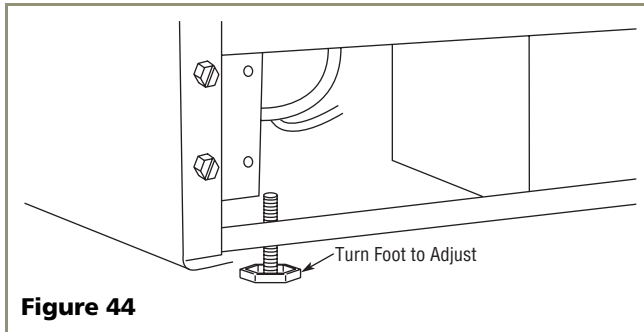

Figure 44
- If the ice maker is not level, adjust the feet on the corners of the unit as necessary (see **Figure 44**).